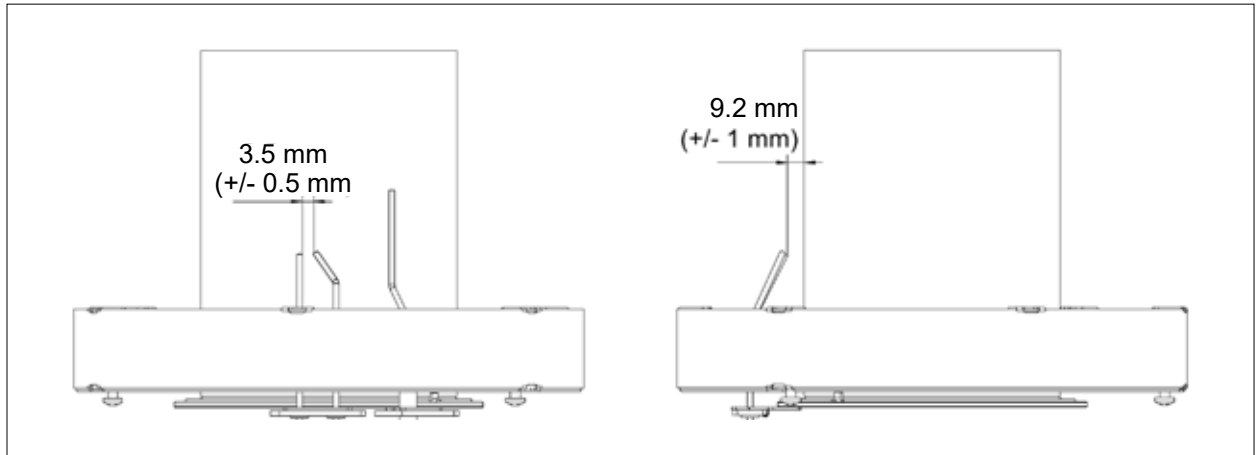

Fig. 6.5 Ignition electrode gaps
- ▶ Check the gaps in accordance with Fig. 6.5 .